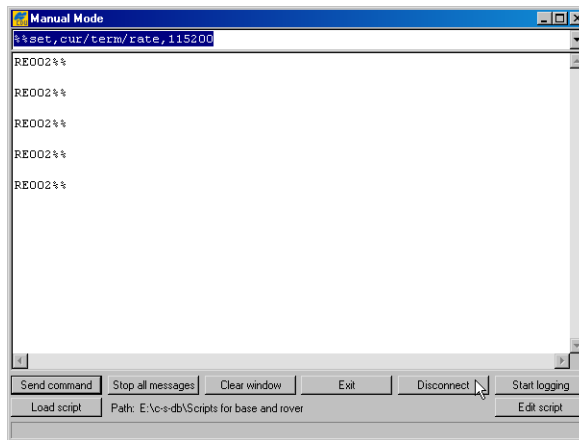

Figure 2-36. Manual Mode Command Responses
20. On the Manual Mode screen, write the following commands, pressing Enter (or clicking Send command) after each command. When finished, you should have five responses (Figure 2-36).
21. Click **Disconnect** (Figure 2-36). Continue with other configuration or operation functions as needed.